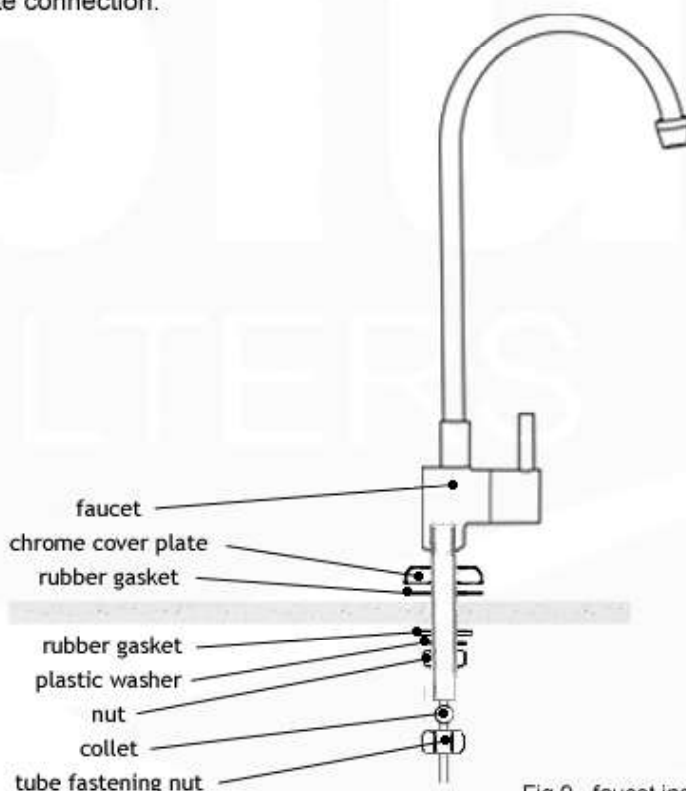

Fig.9 - faucet installation elements
6. Pass the chrome cover plate and rubber sealing as shown in Fig.9 through the threaded mounting tube at the base of the faucet